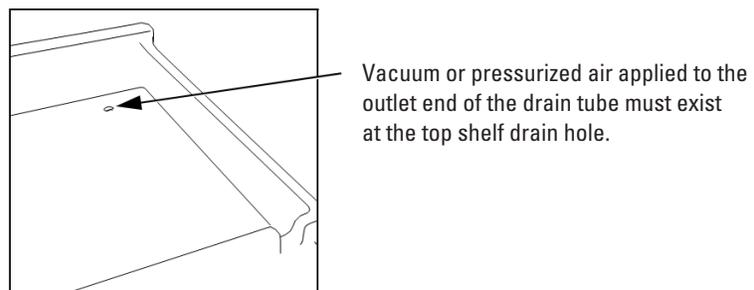

Figure 2-7 Top shelf drain
2. Test the top shelf drain by connecting a vacuum or air supply source to the outlet end of the drain tube. Then, verify the presence of such vacuum or air supply source on the drain (Figure 2-7).